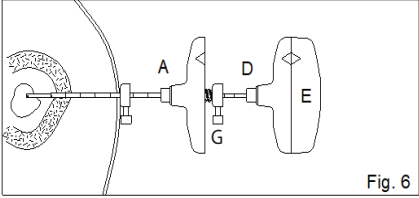

Fig. 6
FIG. 6 Insert the assembled Biopsy Needle and Handle (D+E) through the Cannula (A). Carefully rotate the Biopsy Needle (D+E) clockwise until desired biopsy depth is achieved (or until the depth gauge (G) of the Biopsy Needle (D) reaches the Cannula (A) luer end.